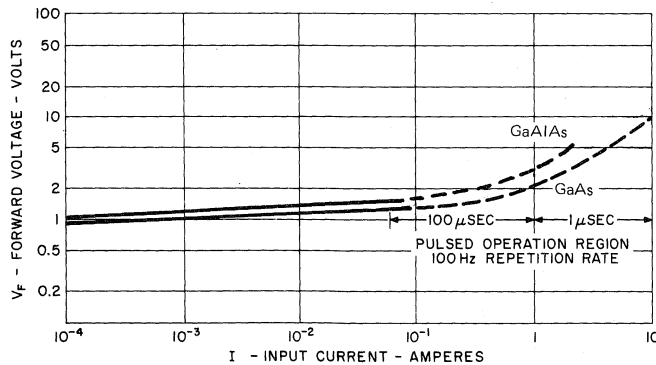

Fig. 32 - Typical optocoupler input characteristics —  $V_F$  vs.  $I_F$  at 25°C.
**a. Input** The input characteristics of the coupler are the characteristics of an IRED — usually a single diode, although the H11AA has an anti-parallel connected, two IRED input. The forward voltage drop,  $V_F$ , is slightly different than that of the discrete IRED previously discussed, due to differences in wiring and contact details. Figure 32 illustrates this for all GE coupler types. In pulsed operation